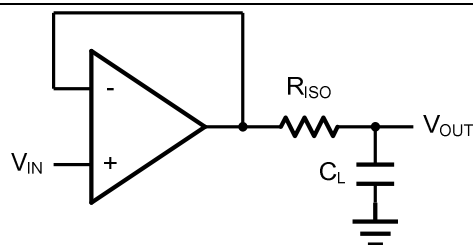
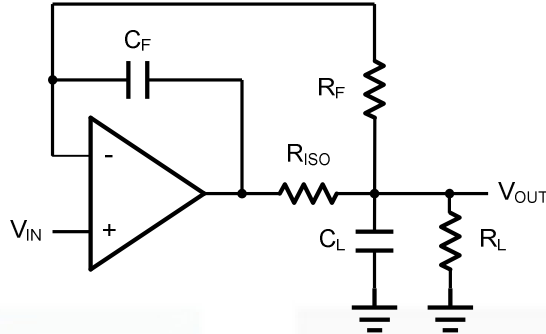

Figure 2. Indirectly Driving a Capacitive Load Using Isolation Resistor
Figure 3. Indirectly Driving a Capacitive Load with DC Accuracy
The GS833x family is optimized for bandwidth and speed, not for driving capacitive loads. Output capacitance will create a pole in the amplifier's feedback path, leading to excessive peaking and potential oscillation. If dealing with load capacitance is a requirement of the application, the two strategies to consider are (1) using a small resistor in series with the amplifier's output and the load capacitance and (2) reducing the bandwidth of the amplifier's feedback loop by increasing the overall noise gain. Figure 2. shows a unity gain follower using the series resistor strategy. The resistor isolates the output from the capacitance and, more importantly, creates a zero in the feedback path that compensates for the pole created by the output capacitance.
The circuit in Figure 3 is an improvement to the one in Figure 2.  $R_F$  provides the DC accuracy by feed-forward the  $V_{IN}$  to  $R_L$ .  $C_F$